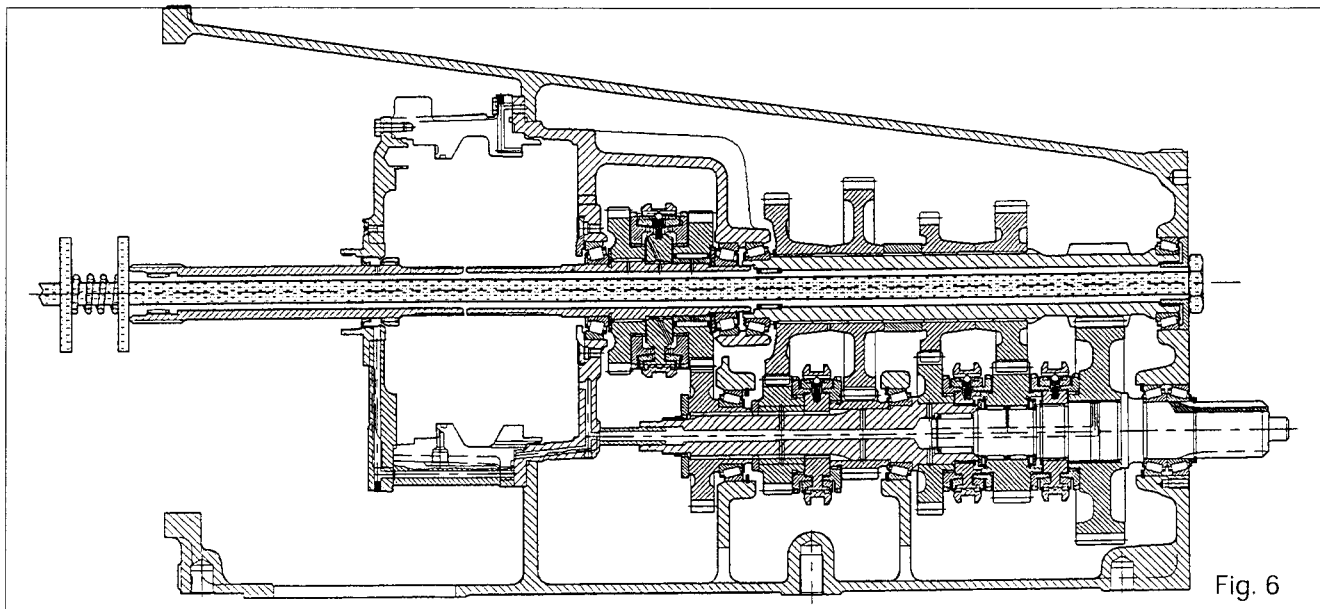

Fig. 6
24. Install the locally manufactured tool (see Section E) in the layshaft (Fig. 6).